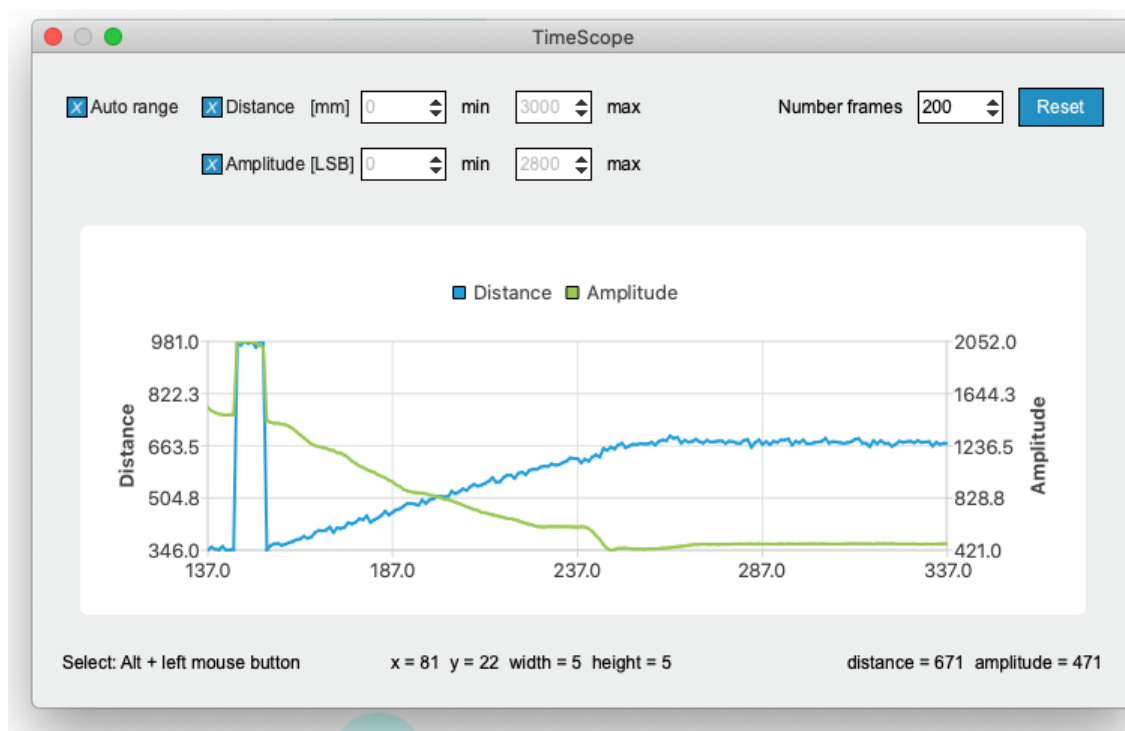

Figure 20: Time Scope window
- "Timescope" shows a selection of an ROI in the live image. The ROI is defined with left mouse button. The average of distance and amplitude values over all selected pixels are shown against time axis (Figure 20).